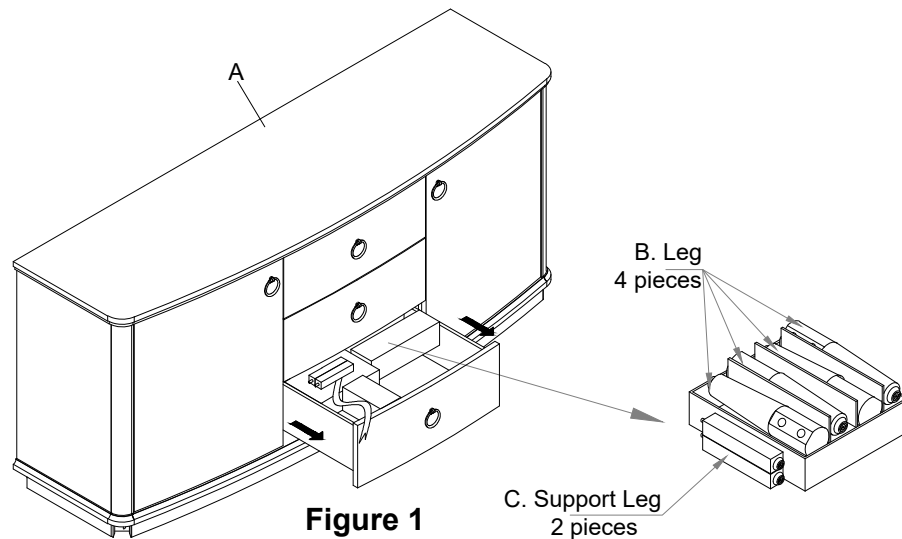

Figure 1
Open the bottom drawer of the Console Base (A) and remove the legs (B) and support legs (C). (See Figure 1)